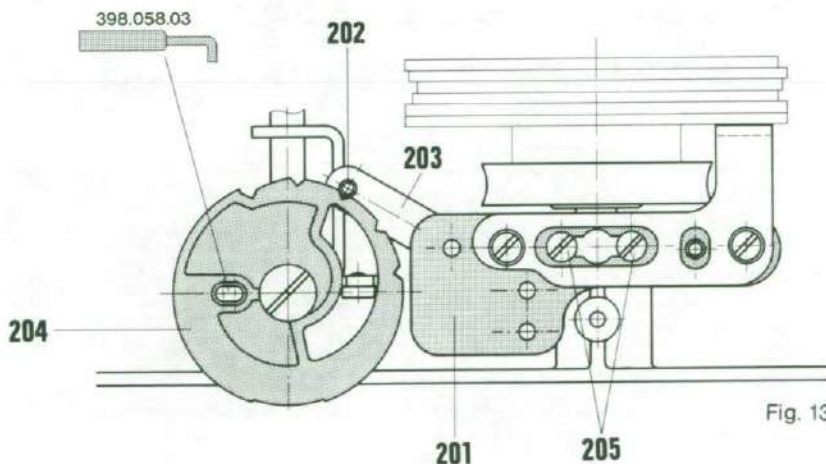

Fig. 13
Centre LCR-adjusting disc with adjusting tool no. 398 058 03 in centre C-position through the hole in the adjusting disc and frame (Fig. 13). Loosen slightly the two fixing screws (205) of the LCR locking support plate (201). Move the support plate